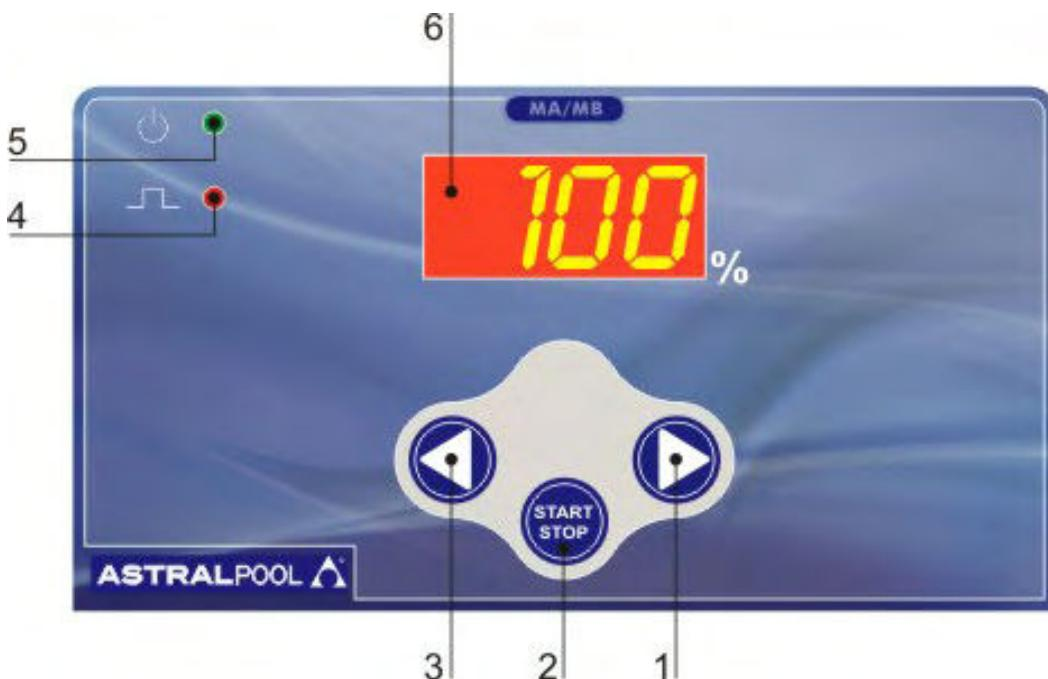

Fig. 14
*Manual flow rate adjustment by means 2 buttons (LEFT (3) - RIGHT (1)) shown in figure 14.
7.1 - PUMP CONTROLS (Fig. 14)